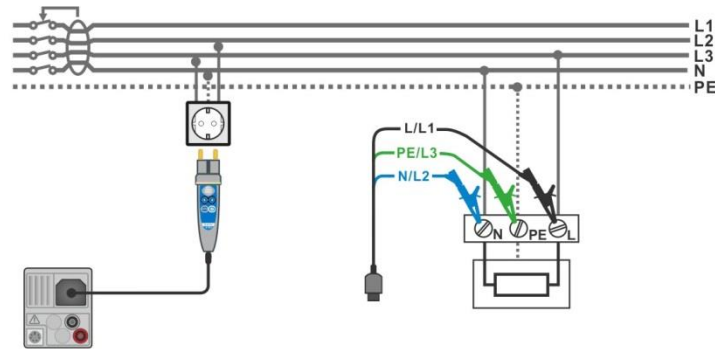

Figure 7.36: Connection of Plug commander and 3-wire test lead
- Connect test leads or Plug commander to the object under test, see **Figure 7.36**.